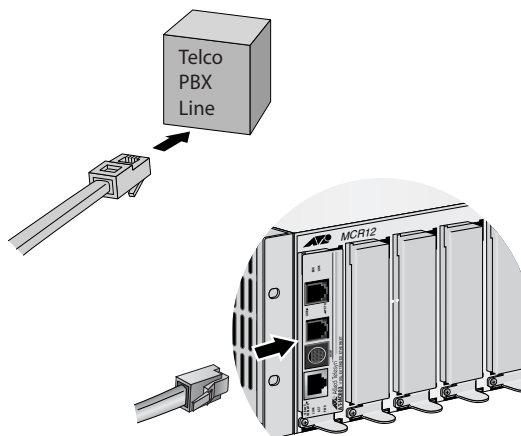

Figure 16 PSTN to Telco PBX Line
2. Then, connect a telephone line cable from the PSTN port to the outside telco box, as shown in Figure 16.